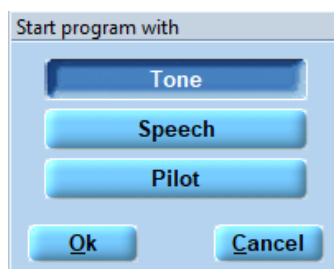

Figure 65
**Start with Tone:** Pressing the **Start with Tone** button opens a message box that allows for the selection of the test the programm shall start with (Figure 65).